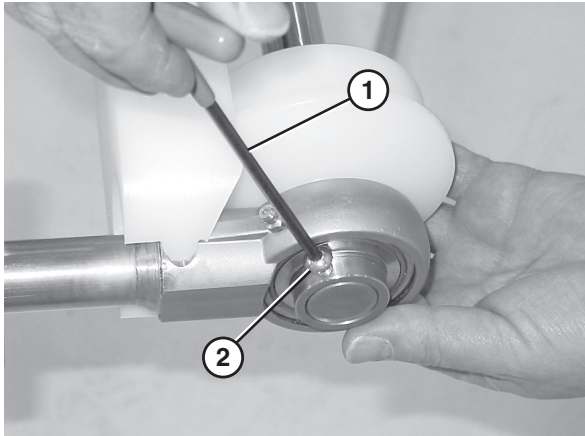

Figure 79
9. Use a hex wrench (**Figure 79, item 1**) to tighten the bearing shaft fasteners (**Figure 79, item 2**) to 54 in•lbs. Check after 24 hours of conveyor use.